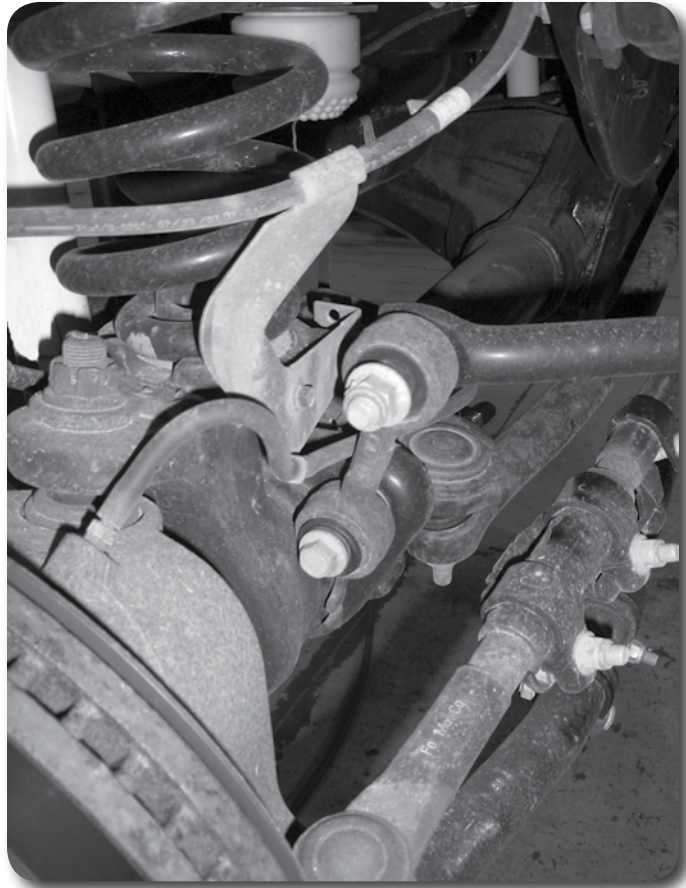
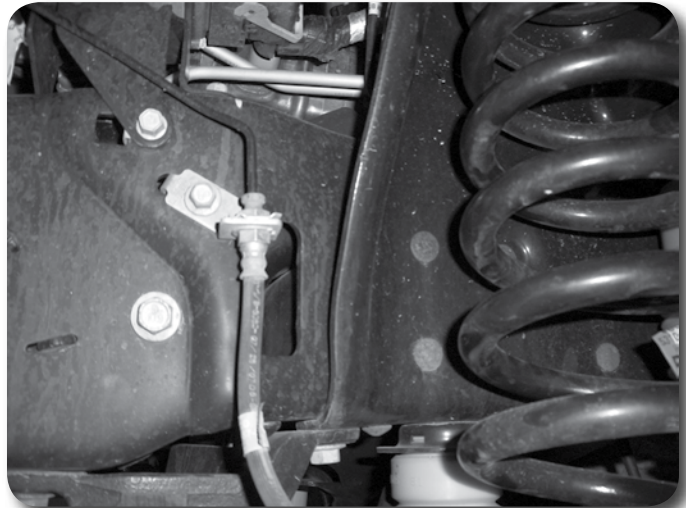

Figure 3
Figure 4
7. Disconnect the front brake line brackets from the axle **Figure 3** and frame **Figure 4**. Save hardware.